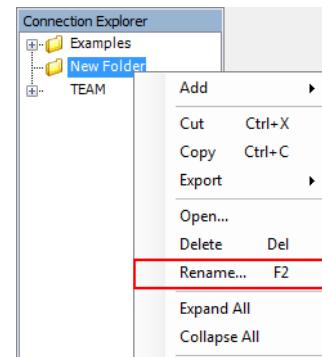

Figure 144 Rename Folder
Step 11. Right-click **New Folder** and select **Rename**, as shown in *Figure 144*.